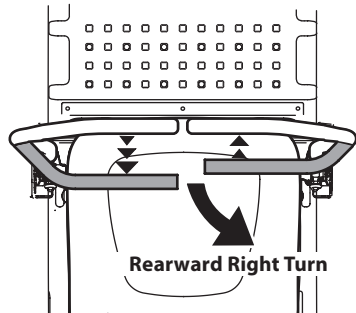

Figure 26
2. To turn to the right while traveling in reverse, move the right drive control lever forward of the left drive control lever (Figure 26).